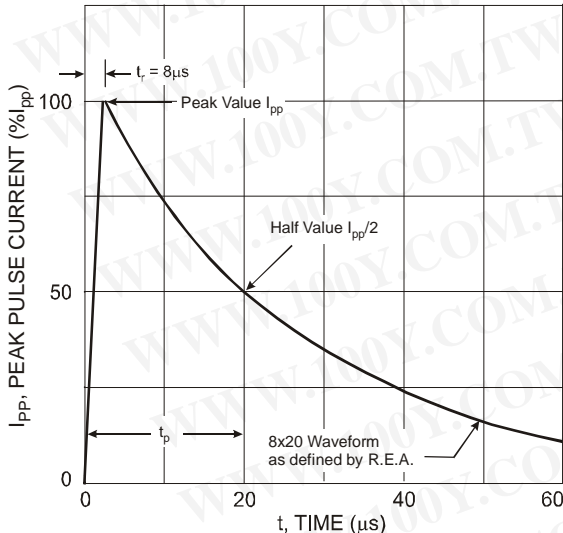

Fig. 3 Pulse Waveform
2. Non-Repetitive current pulse as shown in figure 3 and derated above  $T_A = 25^\circ\text{C}$  as per figure 1.